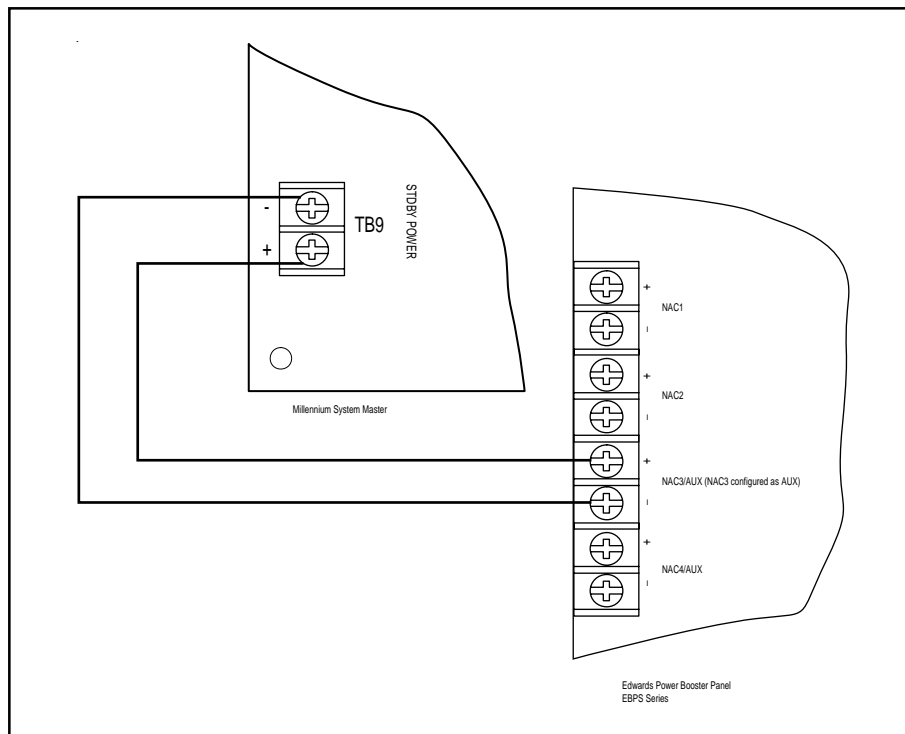

Figure 5. Connecting to an Auxiliary Booster Power Supply
- Connect Standby power.** See Figure 5 and Appendix D or the panel label. *NOTE: When the System Master is used with a fire alarm panel, Standby Power MUST be installed and enabled.*